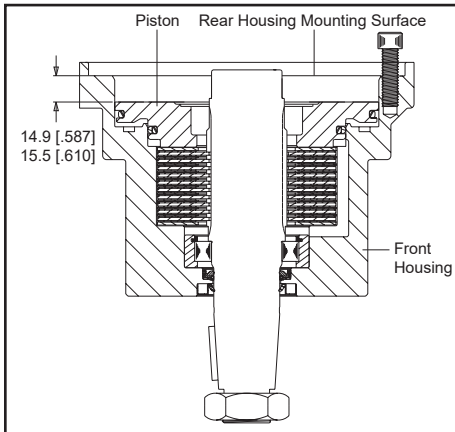

FIGURE 1
- G) Before installing the new disk assembly, sort the disk stampings (18 & 19) by measuring the thickness. The disk stampings come in thicknesses of .030 (.76mm), .050 (1.3mm), .070 (1.8mm). Nine .050 (1.3mm) disk stampings and three .070 (1.8mm) disk stampings will be required for the disk assembly. The disk stampings may be installed in any order as long as one .050 (1.3mm) disk is used last. Begin the installation by placing one disk stamping (18) into housing making sure that lugs or splines engage those in housing (15). Install one friction disk (17) engaging splines on disk with those on shaft. Alternate disk stampings and friction disks until all disks and disk stamping (19) are installed. Install the .050 (1.3mm) disk stamping lastly on top of disk assembly.
- H) Install small O-Ring seal (5) and large O-Ring seal (7) into corresponding grooves in piston (20). Install small seal (6) and large seal (8) in corresponding grooves over O-Ring seals. Thoroughly coat seals and sealing surfaces of housing (15) with dean oil. With large O.D. side of piston (20) facing up, install piston (20) into housing (15) and evenly press piston down making sure not to pinch seals. Firmly press the piston down to seat all components. Then, using Figure 1 as a reference, measure the stack up of the assembly. The measurement must be between .587 - .610 (14.9 - 15.5 mm). If the measurement is not within these specifications, remove the piston (20) from the housing, remove the top disk stamping and install a .030 (.76mm) or .070 (1.8mm) disk stamping to bring the measurement within the specifications. Reinstall the piston, firmly press it down and remeasure the stack up of the assembly to see that measurement falls within the specifications.